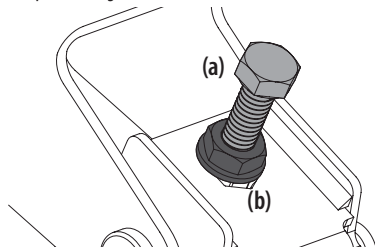

Figure 30
3. Locate the adjustment bolts (a) on the left and right side of the deck. See Figure 30.
4. Loosen, but do not remove, the jam nuts (b) on the adjustment bolt. Adjust either the right or left adjustment bolt up or down as necessary until the side-to-side heights are equal. See Figure 30.
- When proper adjustment is achieved, re-tighten the jam nuts (b). Tighten to 57 ft-lbs (77 N-m). See Figure 30 on page 25.